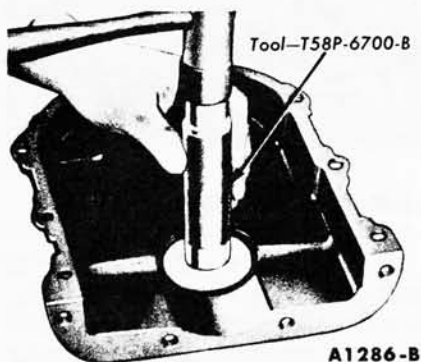

FIG. 61—Oil Seal Installation
2. Coat a new seal with grease, then install the seal (Fig. 61). Drive the seal in until it is fully seated in the recess. Check the seal after installation to be sure the spring is properly positioned in the seal.